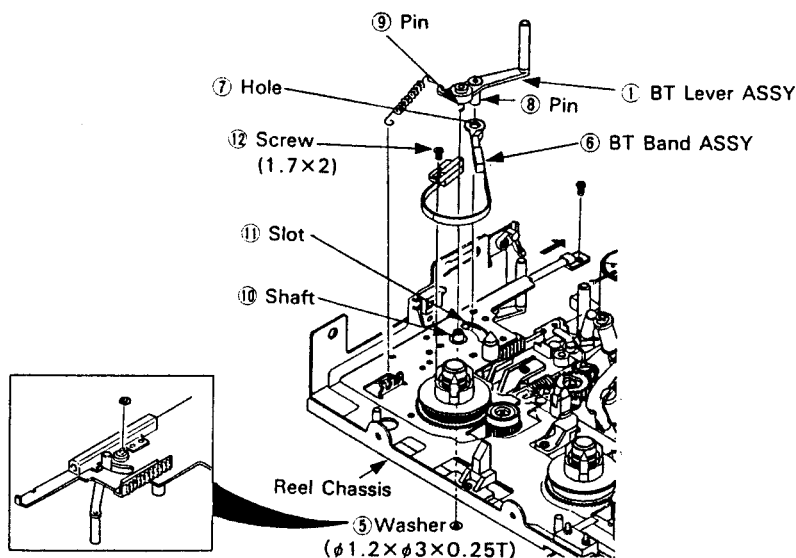

Fig. 2-12.
- 2) Remove screw ⑫ in Fig. 2-12 and release BT band ASSY ⑥ at this end.
- 3) Remove tension coil spring ② on BT lever ASSY ①.
- 4) Remove screw ③. Slide slightly the slide bearing ④ in the direction of the arrow and separate the reel chassis from the main chassis. (Flexible PCB can be left attached.)
- 5) Turn the reel chassis over and remove Washer ⑤ at the back of the chassis then remove BT lever ASSY ①.
(2) Reinstallation procedure (See Fig. 2-12.)